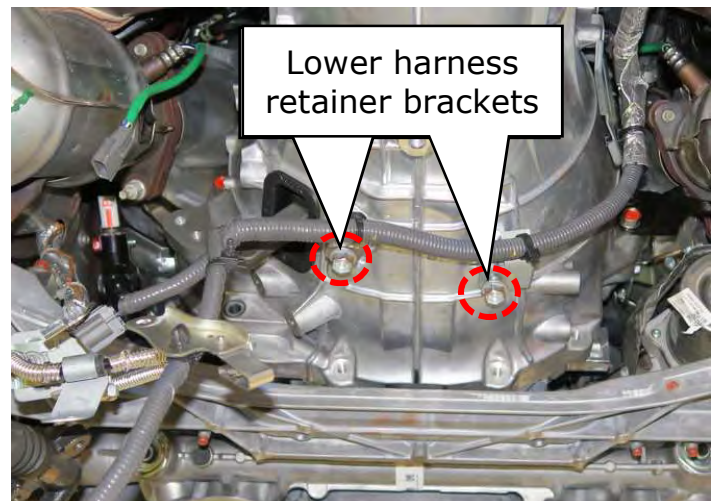

Figure 89
89. Move the wire harness into position shown in Figure 89.
- Start the bolts for the (2) lower wire harness retainer brackets by hand
- Torque the (2) bolts to 28 N•m(2.9 kg-m, **21 ft-lbs**)